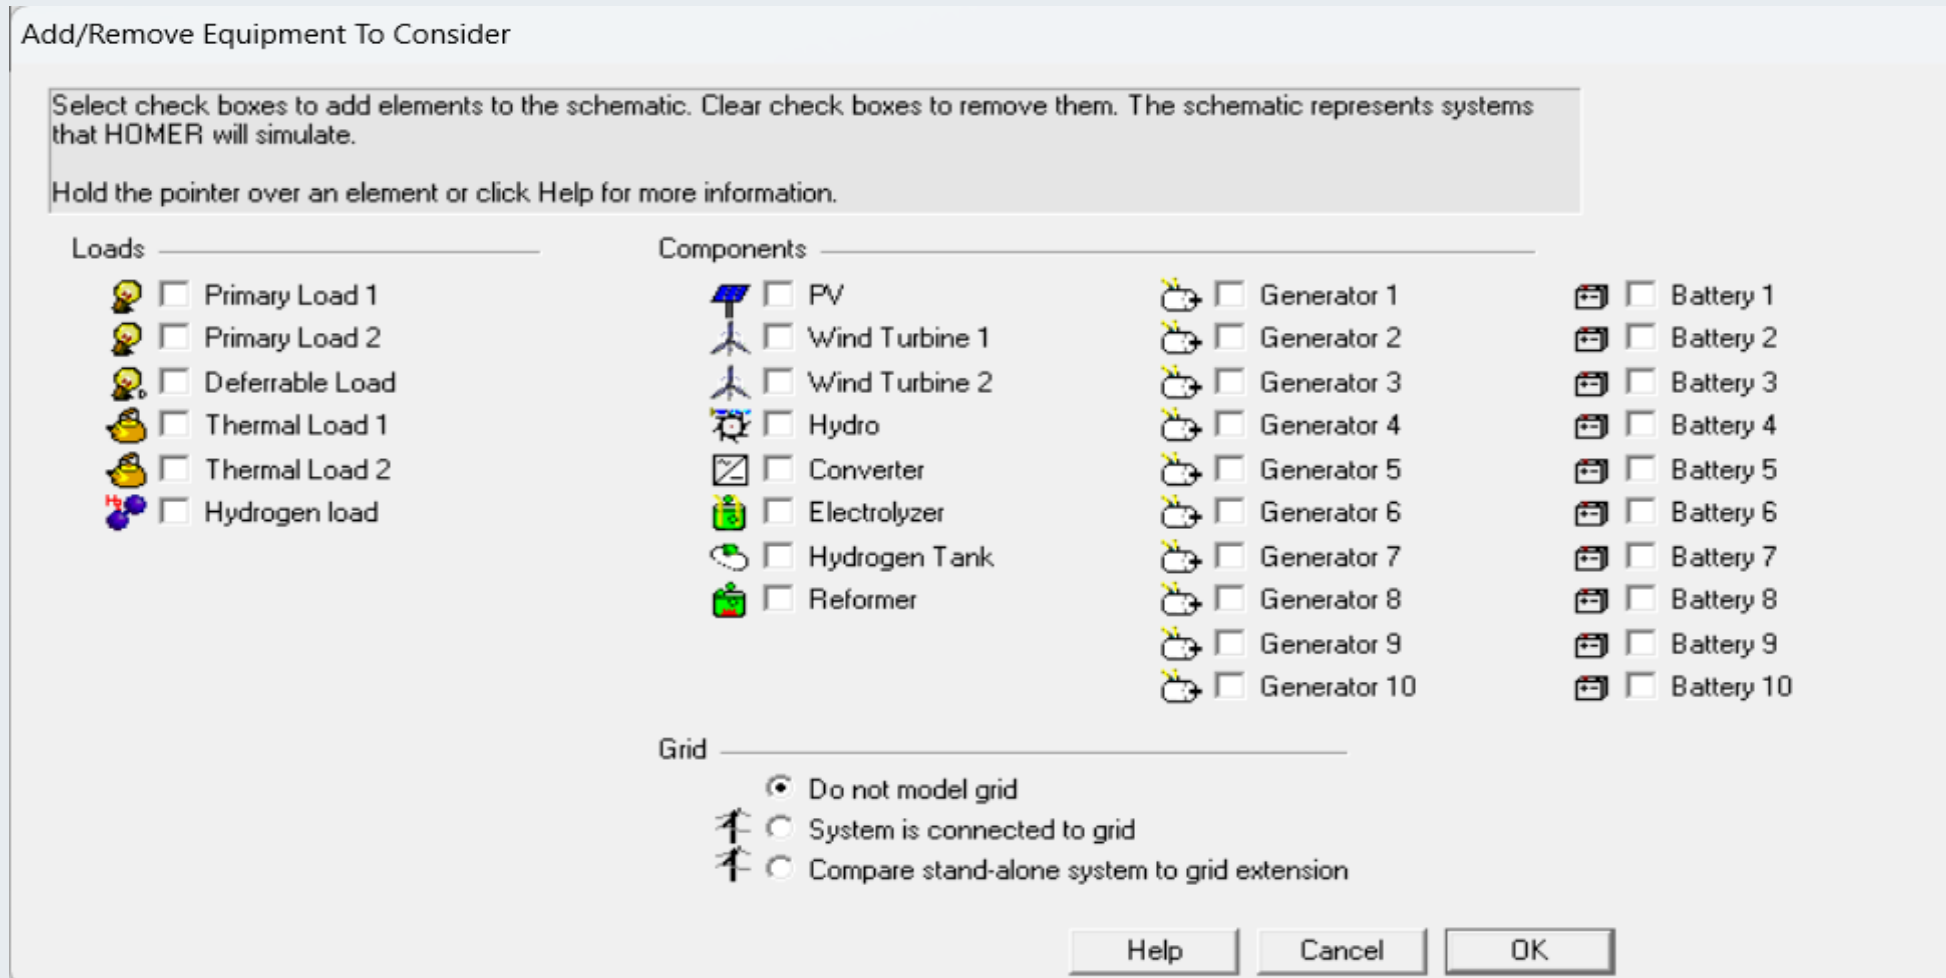

Figure 1. Developing the new model using HOMER software
5. Select the component and loads based on the design , which is given in Fig.1